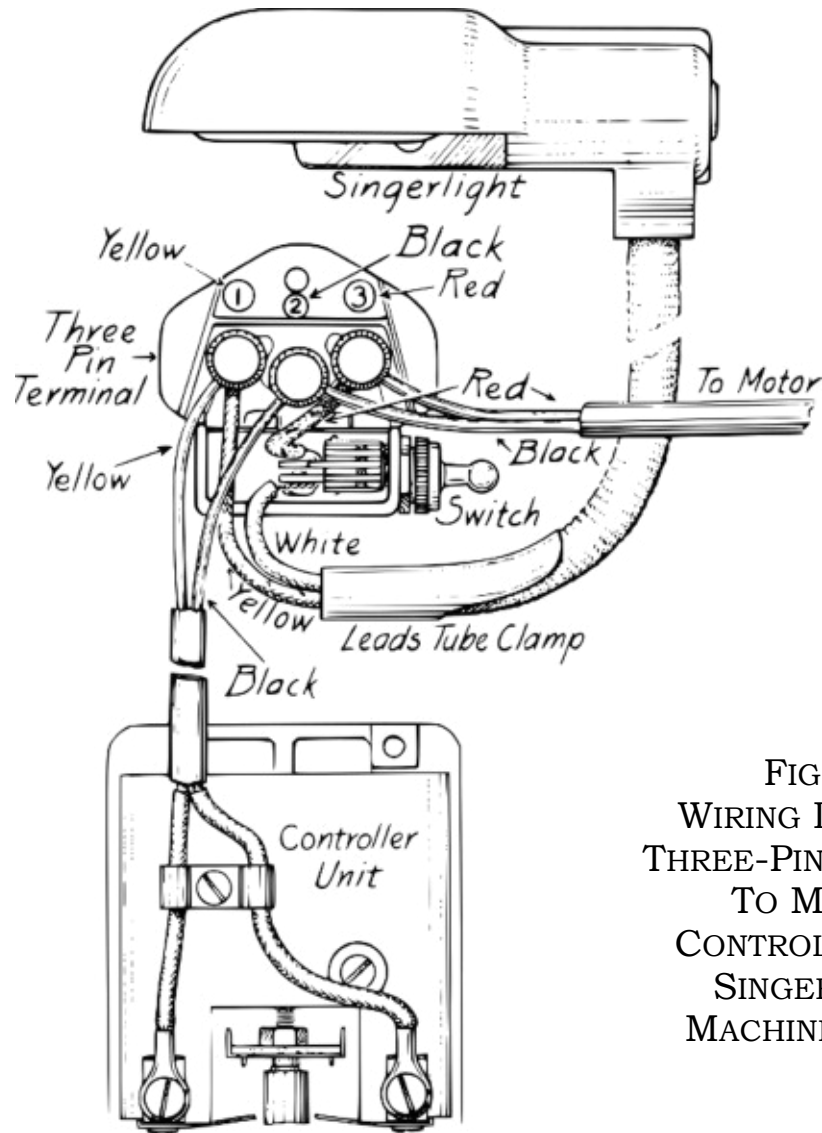

FIG. 2.
(SEE FIG. 2, WIRING DIAGRAM)
**Motor Leads**—Fasten the lead with the **red** identification tubing to the **red** pin No. 3, and fasten the lead without identification tubing, to the middle pin No. 2, as illustrated in Fig. 2.